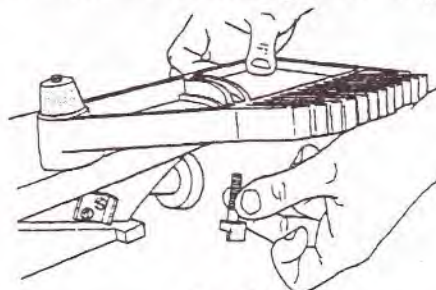

Fig. 15
24. Install the stop pin (14) in the feather guard by inserting its shaft through the slot in the guard, as in Fig. 15. The long, flat side of the stop pin (14) must face the side with the feather guard "fingers".